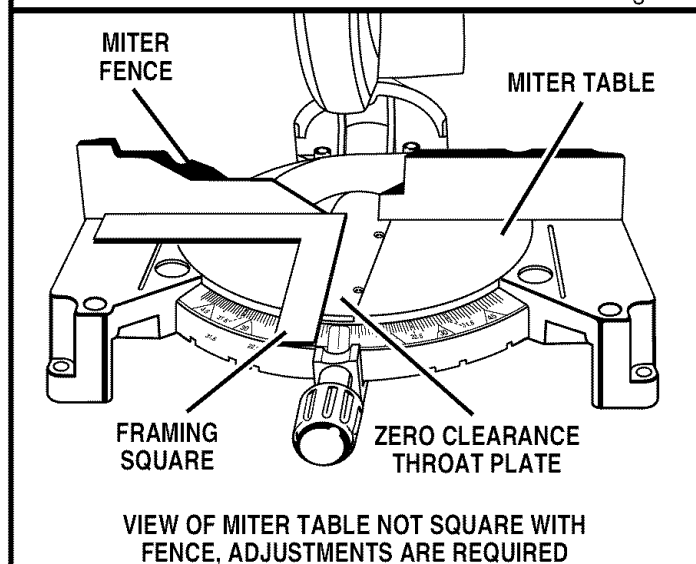

Fig. 15
- Lay a framing square flat on the miter table. Place one leg of the square against the fence. Place the other leg of the square beside the zero clearance throat plate in the miter table. The edge of the square and the zero clearance throat plate in the miter table should be parallel as shown in figure 15.